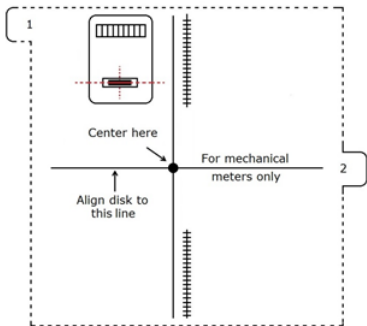

Fig.4
a. Start by removing the template from the white background, by gently pulling slip 1 (Fig.4) on the left hand corner of the template. The horizontal line is flush with the rotation disc, and the left-hand side vertical line is aligned with the markings on the middle of the meter: